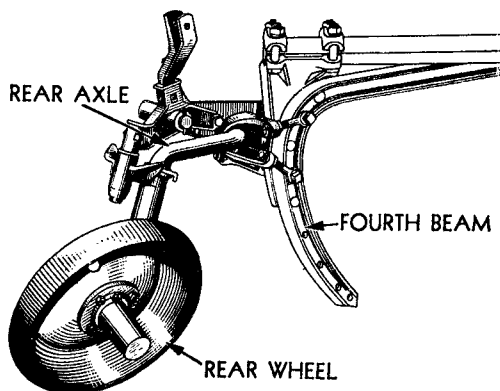
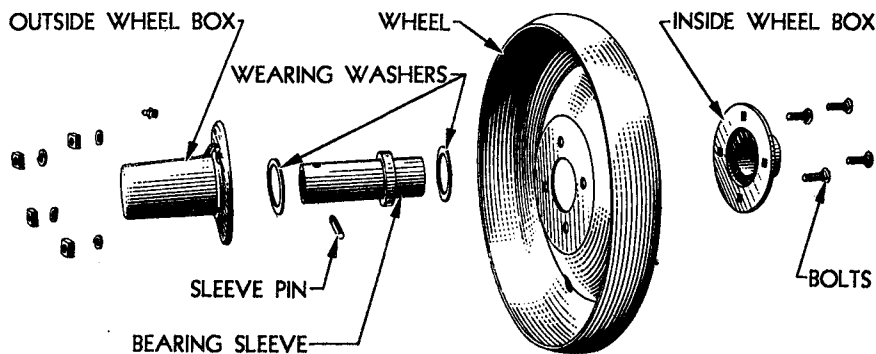

FIGURE 8—ATTACHING REAR AXLE AND WHEEL
FIGURE 9—ASSEMBLING REAR WHEEL
7. **REAR AXLE AND WHEEL.**—Attach rear axle onto fourth beam. (Figure 8.) Place inside box with rear wheel on axle. (Figure 9.) Place wearing washer and bearing sleeve on axle and pin rigidly to axle. Grease wheel sleeve thoroughly with No. 3 Cup Grease or its equivalent. Place wearing washer and outside wheel box on axle and bolt tight.